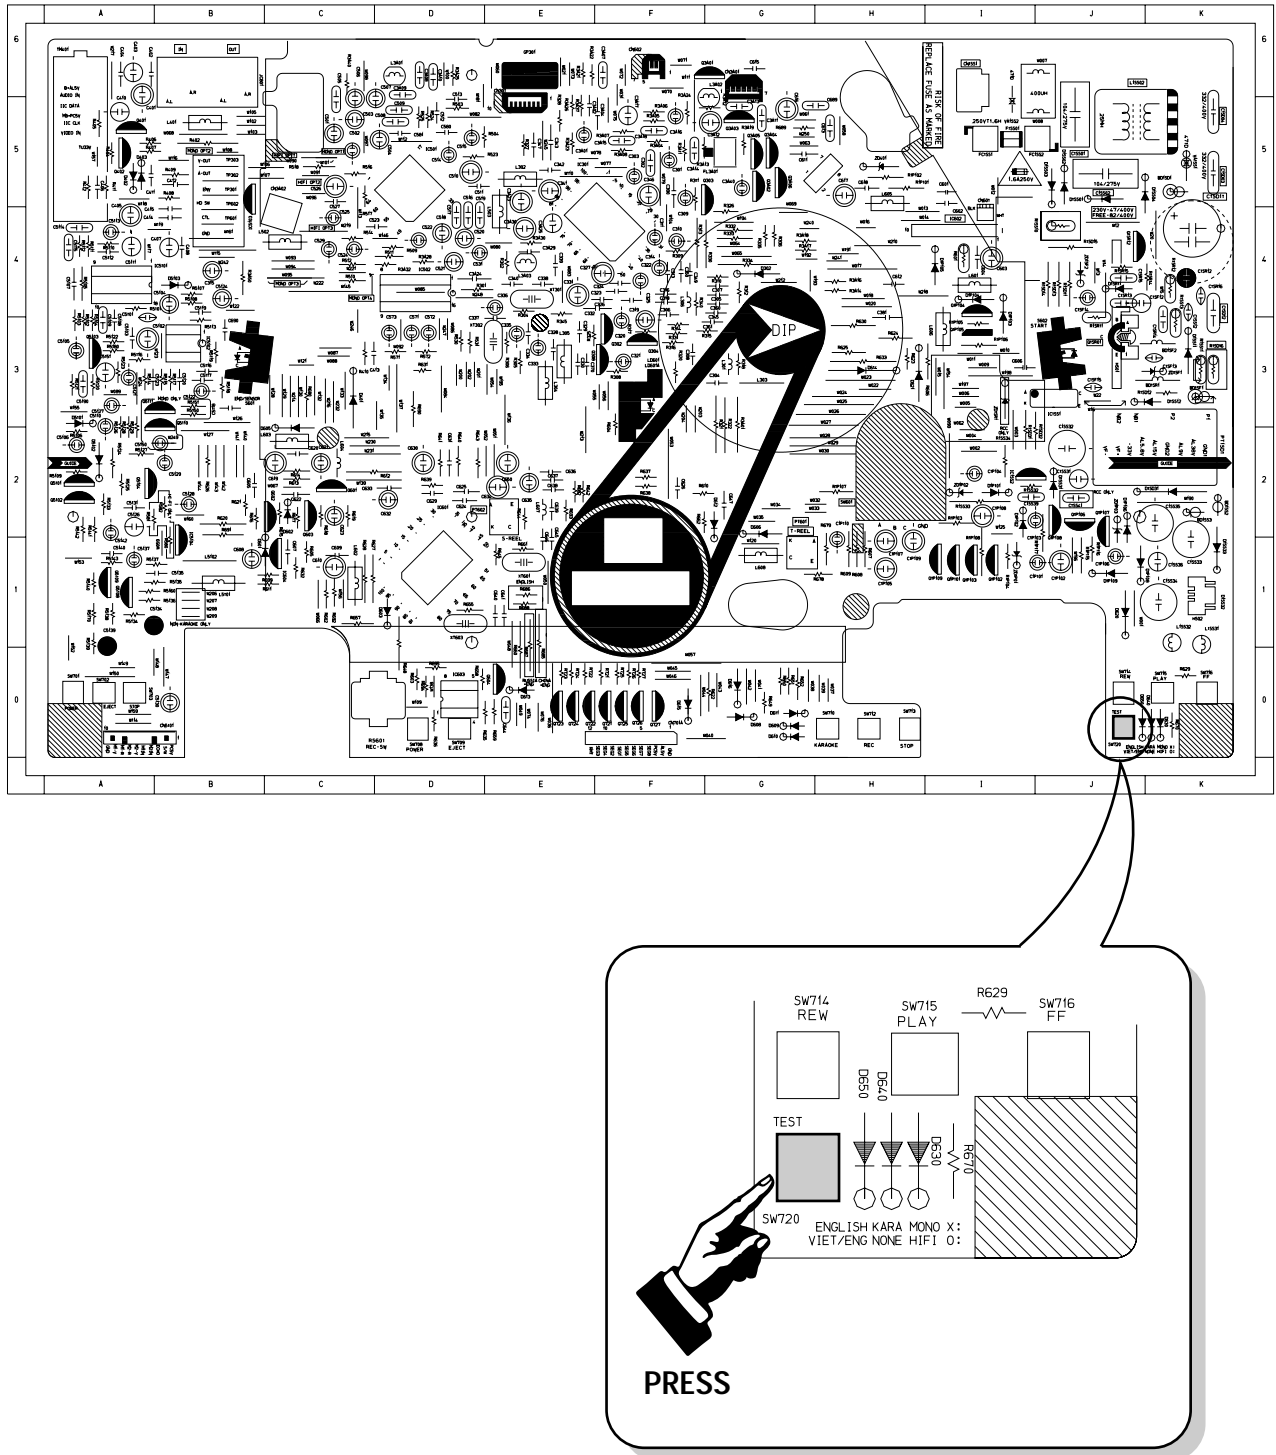

Fig. 2-2 Main PCB (Top View)
- 2) Press the “SW720 (TEST)” button on Main PCB to set the adjustment mode. (See Fig. 2-2)